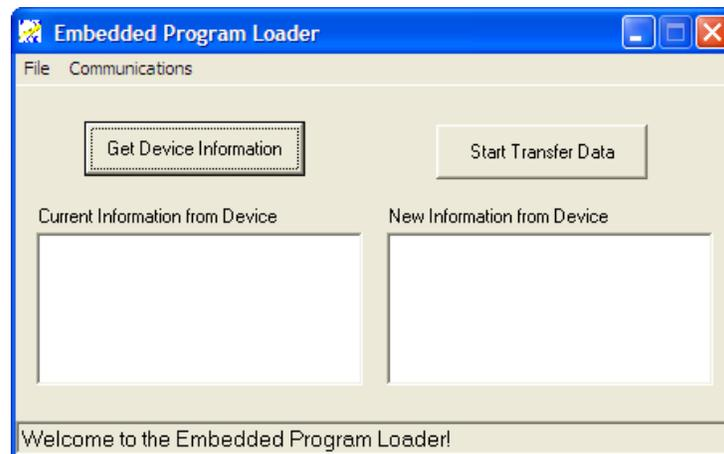

Figure 3-12. IFM-150 Embedded Program Loader
3. Click **Yes** to proceed with firmware uploading. The IFM Embedded Program Loader application starts (Figure 3-12).